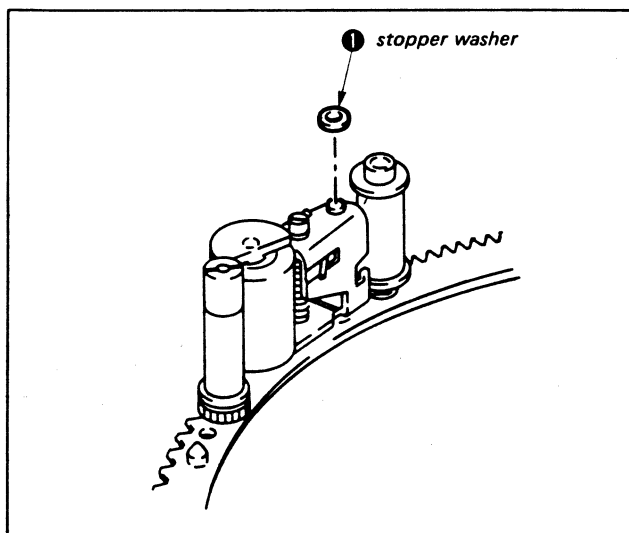

Fig. 3-10.
- 2) Remove stopper washer ①. (See Fig. 3-10)